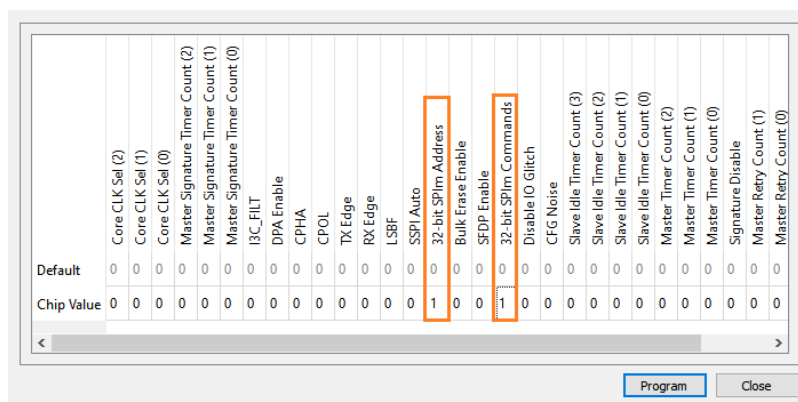

Figure 7.20. Settings to Select Chip Value
14. Change bit 0 to 1 for 32-bit MSPI Address and 32-bit MSPI Commands as shown in Figure 7.20. For changing these bits, click once on the 0 values in the Chip Value row.